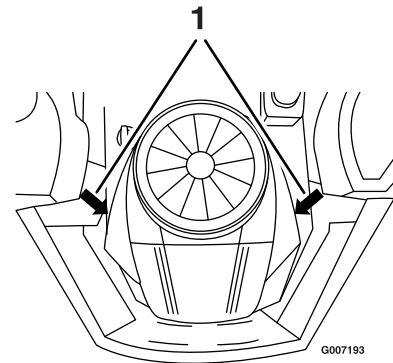

Figure 29
2. Pull the wire off of the spark plug (Figure 29). Clean around the spark plug to prevent dirt from falling into the engine and potentially causing damage.
3. Push the wire onto the spark plug (Figure 29).